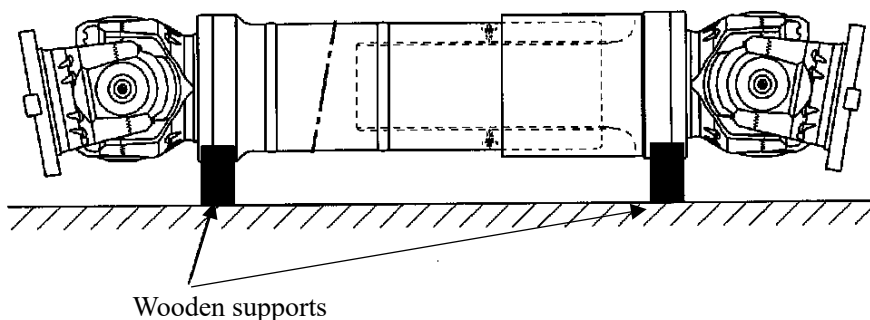

Figure 6 Storage method
- For long-term storage, place the universal joint on wooden supports, and ensure that no excessive force is applied to the cross kits (cross and bearings) at both ends (Figure 6). Also, be sure to cover the universal joint with fabric or vinyl sheet to protect from dust during storage. When using the universal joint after a long-term storage, be sure to supply grease sufficiently before use. Refer to “5. Greasing” on page 8 for details.